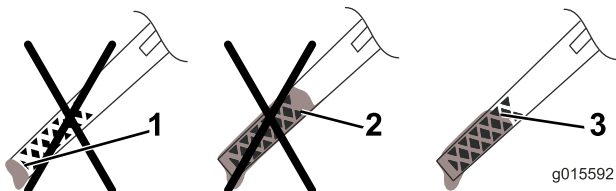

Figure 30
13. Remove the dipstick and read the oil level on the dipstick (Figure 30).